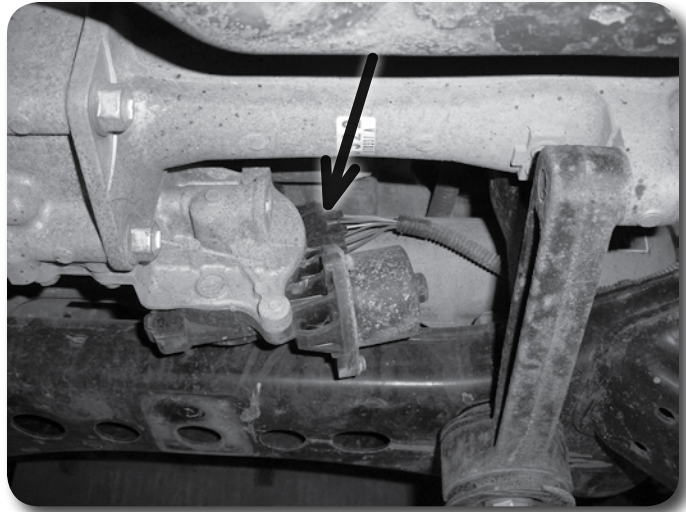

Figure 18
23. Locate the front differential actuator wire connector on the front passenger's side of the differential. Push in on the retaining clip and pull the connector free from the actuator **Figure 18**.